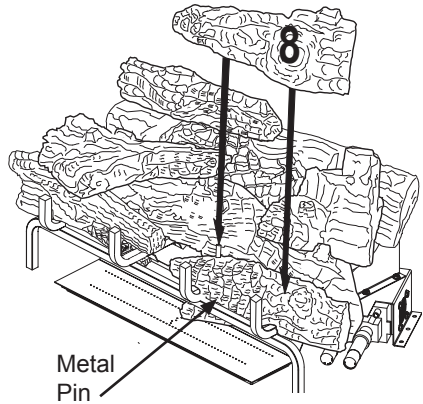

Figure 44 - Installing Log # 8
- Place the front right mid log (#8) on top of the front right log (#4) as shown in Figure 44. Match the round metal pin on the top of the front right log (#4) with the round hole on the bottom of the front right mid log (#8).